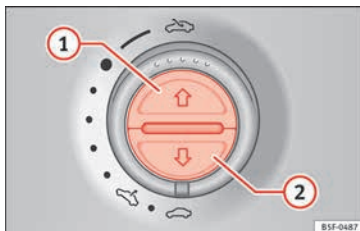

Fig. 140 On the interior roof lining: switches for the sun blind
To open completely (automatic):	Press button »» Fig. 140 ① briefly.
To stop automatic operation:	Briefly press the button »» Fig. 140 ① o »» Fig. 140 ②.
To set the intermediate position:	Hold the button »» Fig. 140 ① or »» Fig. 140 ② until the required position is reached.
To close completely (automatic):	Press button »» Fig. 140 ② briefly.
- *Sun blind*: Within 5 seconds of triggering the anti-trap function, push button »» Fig. 140 ② until the sun blind closes completely.